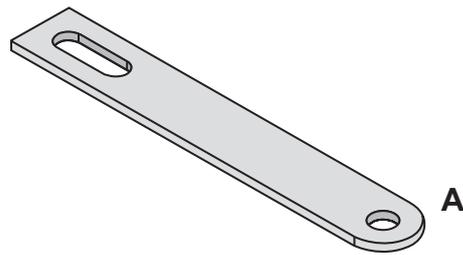

Fig. 6
- 7 **Fig. 6** shows a drawing of a metal component for a school project. The component part is to be made from brass sheet 2 mm thick.